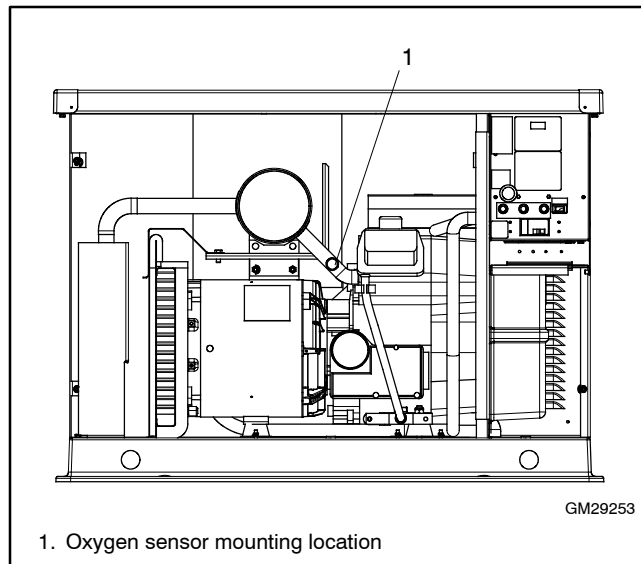

Figure 6-42 Oxygen Sensor Mounting Location
3. Remove the oxygen sensor plug from the exhaust manifold and install the oxygen sensor. See Figure 6-42 for location.